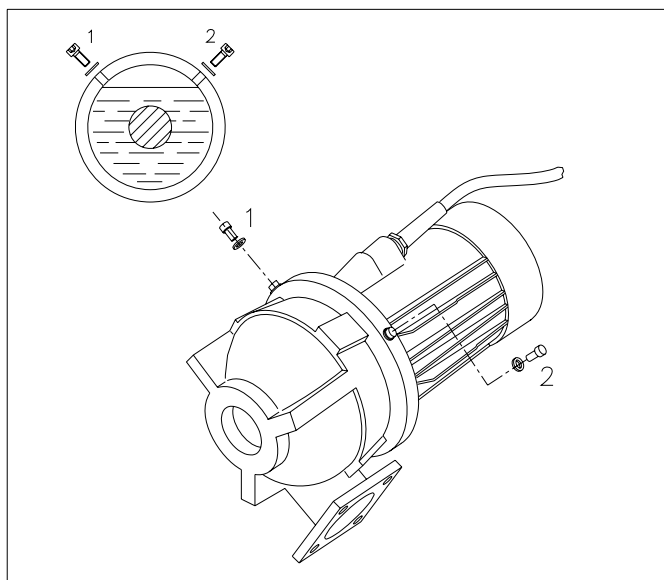

Fig. 7.4
Put the pump in a horizontal position so that the 2 hexagonal socket screws are on top (see fig.7.4). Unscrew the level plug (1) and the vent plug (2).